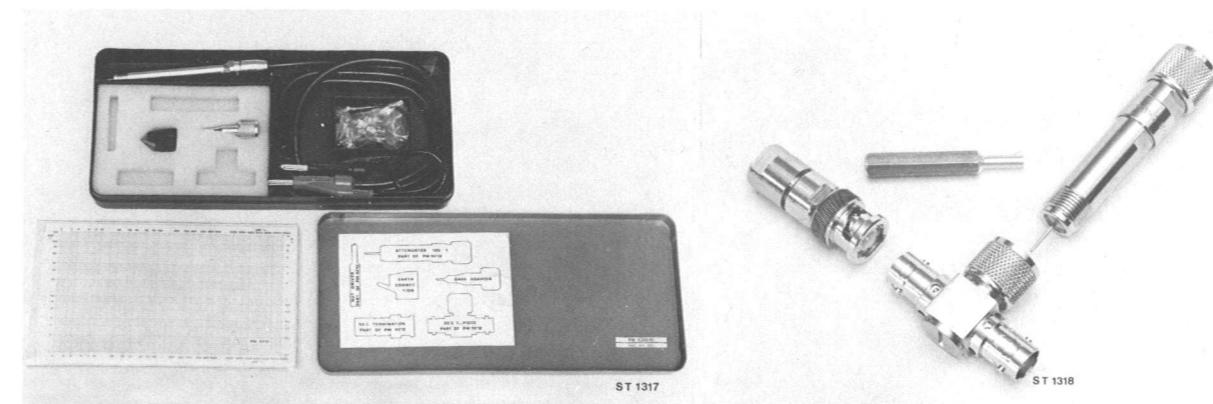

Fig. 3.
3.2.3. Sonde HF PM 9210 Accessoires de sonde PM 9212 (Fig. 3, page 30)